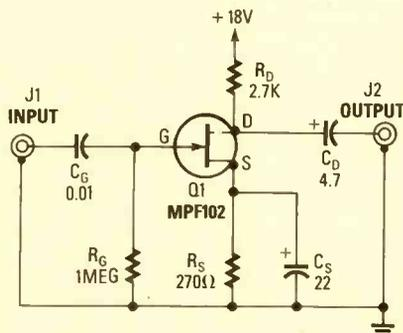

Fig. 1. This is a conventional FET audio amplifier. Many parts can be left out if its input is a dynamic microphone.
**How It Works.** A schematic diagram for the Train and Slot-Car Controller is shown in Fig. 1. As shown, a 555 timer (U1) is configured as an astable multivibrator (oscillator) with a 400:1 duty cycle and a frequency of 40 Hz. That frequency minimizes headlight flicker and yet allows the motor armature to
Fig. 1. The Train and Slot Car Controller is built around a 555 oscillator/timer (configured as an astable multivibrator); an LM358 dual comparator, and six transistors (two of which are hexFET's).
Once that's done, begin wiring the off-board components to the appropriate donut pads using lengths of hook-up wire. The author used spring-loaded speaker terminals for jacks J1 through J4; but any desirable or available connector can easily be substituted. The power-supply components for the circuit (excluding the 9-volt regulator) were mounted to the metal enclosure that houses the circuit, and hard-wired to the board-mounted components. You can do the same by assembling the power supply according to the power-supply section of the schematic shown in Fig. 1 (just remember that U3 is a board-mounted component).
The secret is to recognize which parts you would find in a conventional FET amplifier (see Fig. 1) that can be left out of a microphone preamp. In the typical amplifier of Fig. 1,  $R_G$  provides a DC path from the gate of Q1 to ground, and  $C_G$  blocks any DC that may be applied to the input. If the input is a dynamic microphone, we can leave both of those components out, since the microphone itself conducts DC but doesn't generate any.
Figure 1 shows a "conceptual" model of a typical 4-phase stepper motor. (They are not actually built that way, but the illustration makes the operation easier to visualize.) The rotor can be thought of as a permanent magnet that aligns itself with any applied magnetic field.
Fig. 1. This is a simplified representation of a 4-phase stepper motor. When  $\phi 1$  is energized, the rotor aligns itself as shown in A. When  $\phi 1$  and  $\phi 2$  are energized, the rotor moves to the position shown in B.
**About the 555.** A block pinout diagram of the 555 oscillator/timer is shown in Fig. 1. The 555 integrated timer is made up of several transistor stages, part of which form two comparators—the upper- and lower-threshold comparators—a control RS flip-flop, an output-amplifier stage, and a voltage reference. The key to its operation is its internally set upper- and lower-threshold limits. The 555's upper- and lower-threshold voltages are internally set at  $\frac{2}{3}$  and  $\frac{1}{3}$  of the supply voltage by a resistive voltage-divider network.
Fig. 1. Here is a block diagram of the insides of the popular 555 oscillator/timer, which is made up of several transistor stages that constitute the upper- and lower-threshold comparators, a control RS flip-flop, and an output-amplifier stage. The upper and lower limits of the comparators are internally set at  $\frac{2}{3}$  and  $\frac{1}{3}$  of the supply voltage by a resistive voltage-divider network.